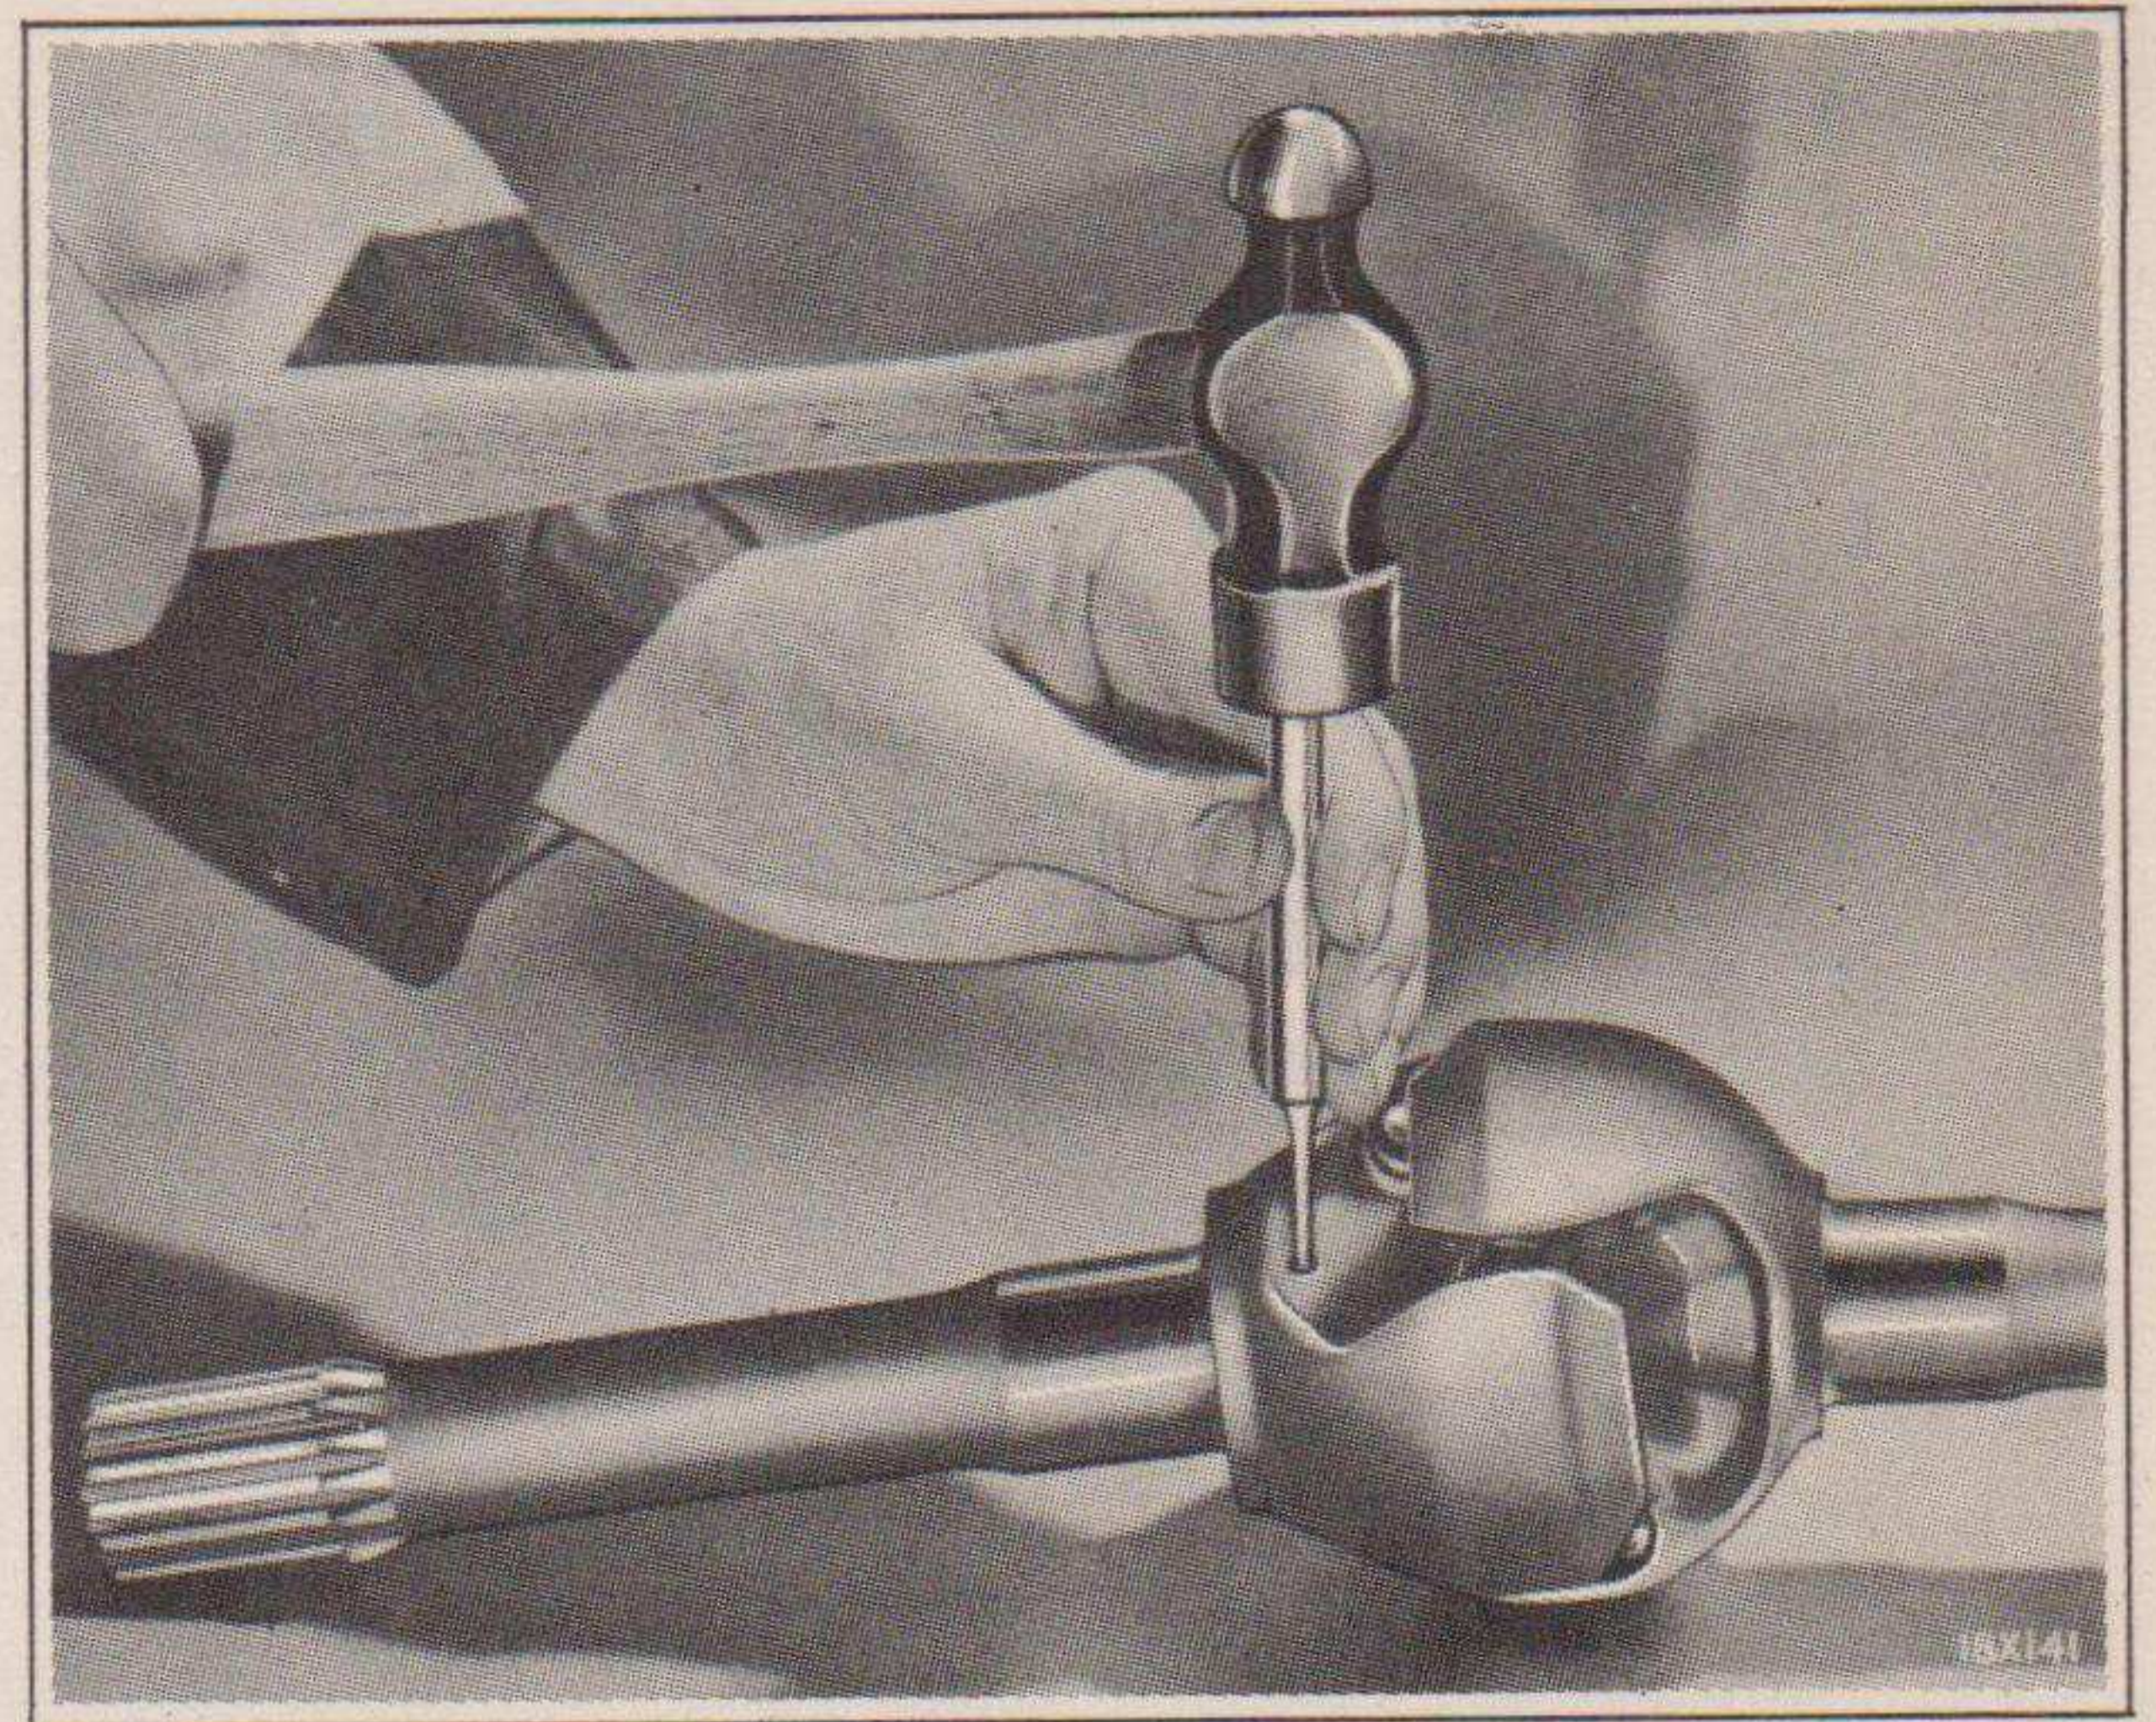

Fig. 16—Removing Universal Drive Center Ball Pin Retainer Pin (Bendix-Weiss)
- (b) Drive out the center ball pin retainer pin as shown in Fig. 16.